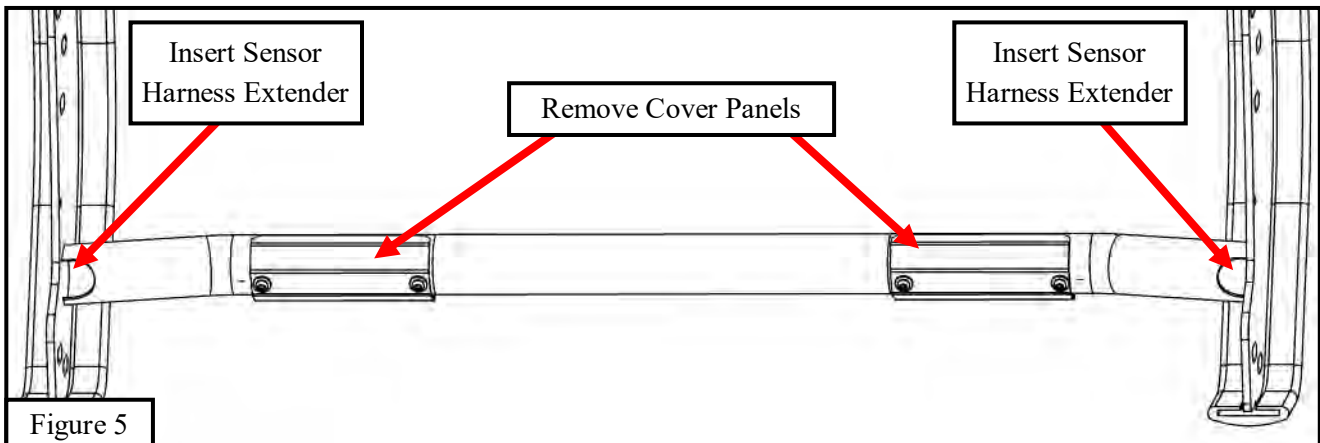
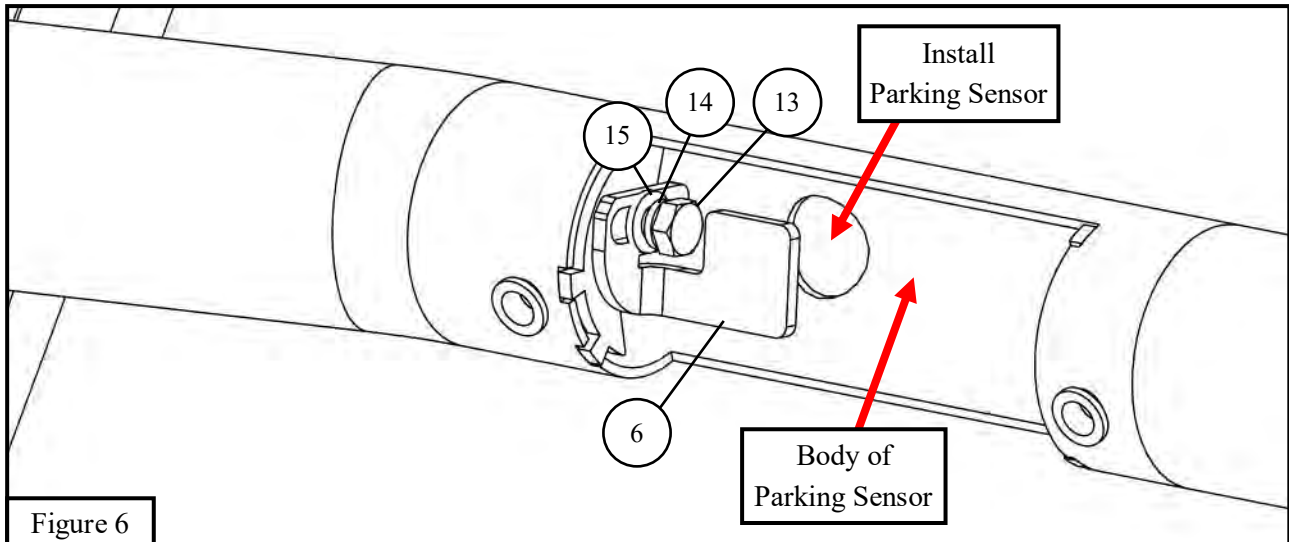

Figure 5
Figure 6
7. Remove the (2) center parking sensors from the front bumper.
8. Remove the cover panels and rubber hole plugs from the grille guard lower tube. See **Figure 5**.
9. Insert (1) sensor harness extender (**item 5**) into the lower grille guard tube. Place one end of the harness extender in the space behind the cover panel. See **Figure 5**.
10. Place (1) piece of double sided tape (**item 20**) on the back of each parking sensor.
11. Install the parking sensors using the M6 hardware (**items 13-15**) and the sensor L-brackets (**items 6-7**). See **Figure 6**.
9. On each side, remove the (4) bolts shown in **Figure 5**.
11. Remove the factory tow hooks. **Note:** Factory tow hooks will not be re-used. See **Figure 6**.